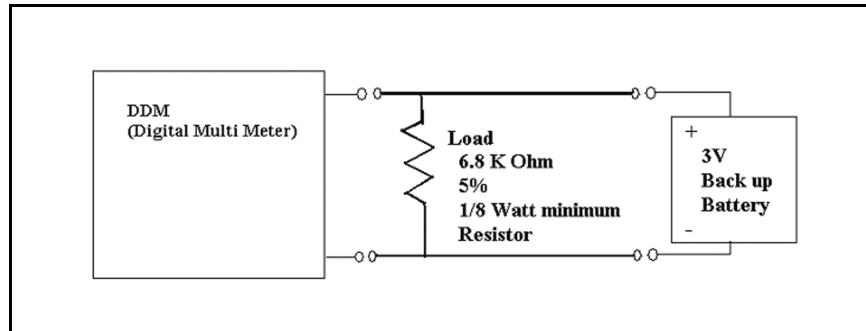

Figure 7-1. Battery Load Circuit
1. Create a “Load Circuit” using a 6.8K Ohm resistor with the parameters shown in Figure 7-1. Connect the Load Circuit to a Digital Multi-Meter (DMM), and set the meter to an “ohms” reading. Without connecting to the battery, the resistance value must read between 6.46 K and 7.14 K. If the value is outside this range, the Load Circuit must be reworked or replaced.